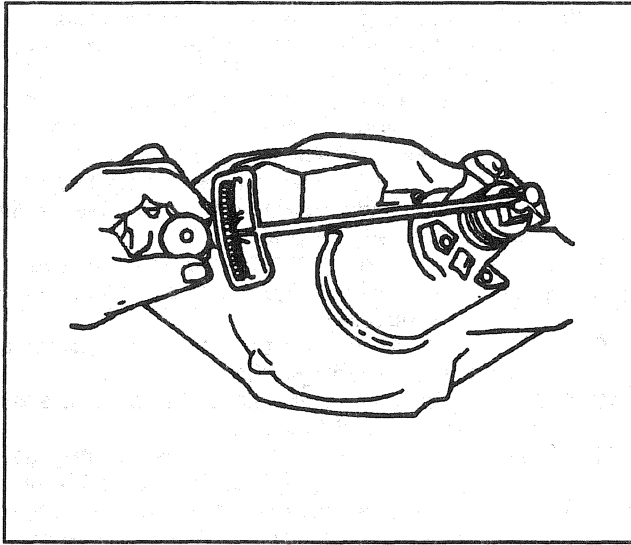

Figure 17—Checking Pinion Bearing Preload
- B. Remove J 8614-01. Check the pinion preload by rotating the pinion. Preload should be at or below 2.3 to 2.8 N.m (20 to 25 lb in) on new bearings, or 1.1 to 1.7 N.m (10 to 15 lb in) for used bearings (Figure 17).